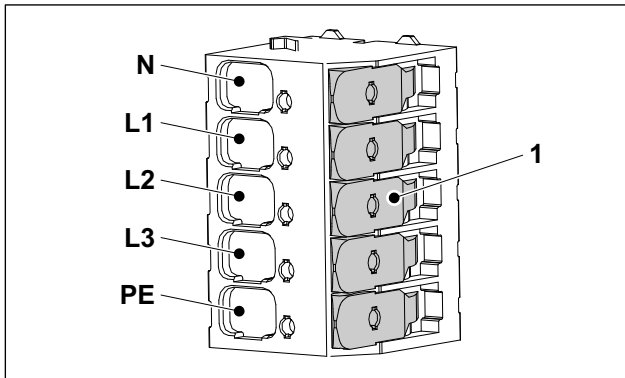

Fig. 5 Terminal clamps of the power supply unit
- Connect the individual wires of the power supply cable as shown in the diagram (Fig. 5). If a single-phase supply voltage is used, it must be connected to L1. Terminals L2 and L3 are not used for a single-phase connection.
This is a tool-free terminal strip. Folding back the clamping lever (Fig. 5/1) opens the terminal so that the respective individual wire can be inserted. The respective clamping lever is then shut to secure the respective individual wire. Folding back more than one clamping lever at a time must be avoided.